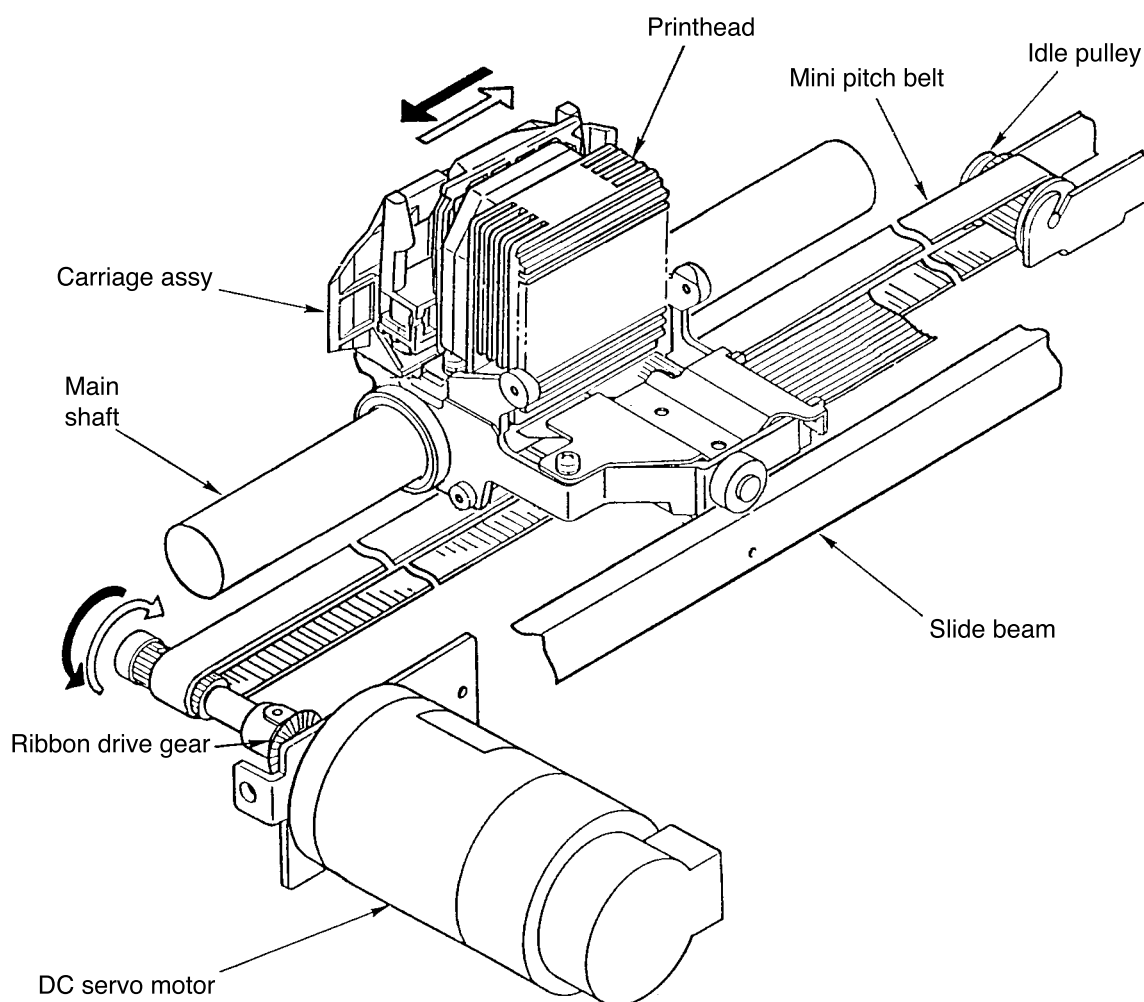

Figure 2.3 Spacing mechanism
(1) Spacing operation (See Figure 2.3)